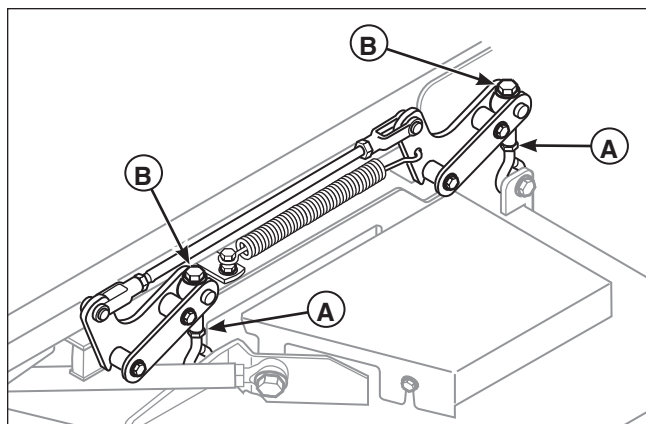
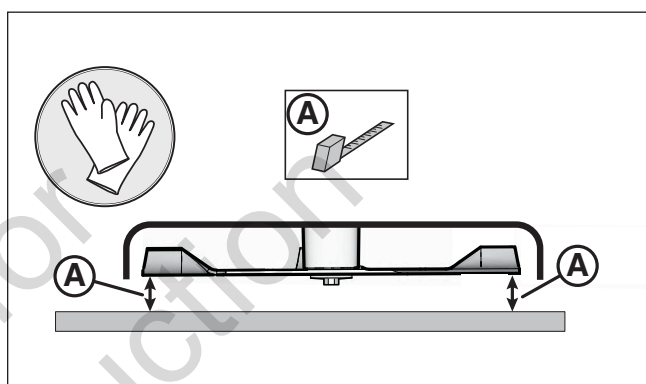

Figure 45. Hanger Chain Adjustment
Figure 46. Checking The Blade Height Measurement
4. Loosen the jam nut (A, Figure 45) on the deck hanger.
5. Turn the deck height adjuster (B) **clockwise** to raise the deck or **counter-clockwise** to lower the deck until the deck rests on the 2 x 4's.
7. For your safety, DO NOT handle mower blades with bare hands. Position the outside mower blades so that they face front-to-back (Figure 46).